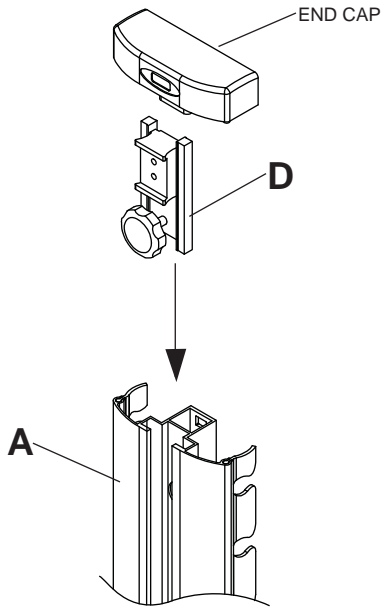

fig. 3.1
- 2 Slide shelf attachment clamp (D) into column (A) and reattach end cap onto column (A) as shown in figure 3.1.